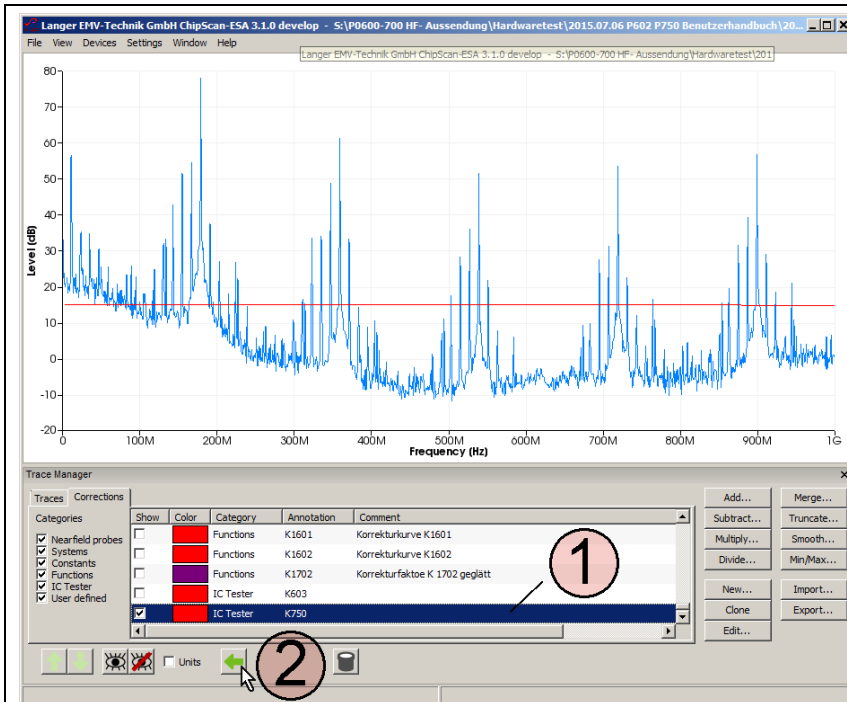

Figure 27 Correction after the measurement; copying K750 from the "Corrections" list to the "Traces" list
Click the "Select" button (mouse cursor ① **Figure 27**) under "Correction" in the "Spectrum Analyzer Manager" to select the respective correction curve.